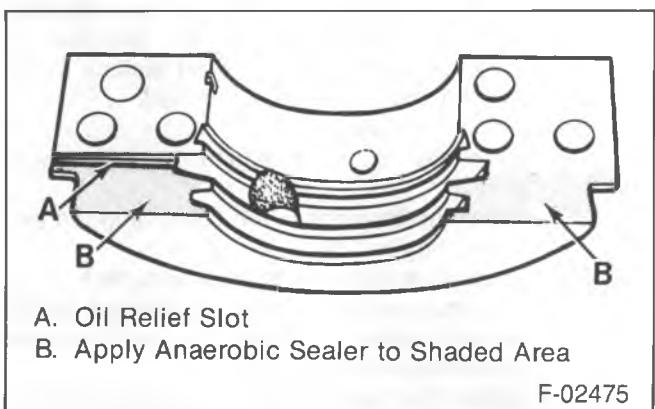

Figure 32—Applying Sealant to the Main Bearing Cap
- Apply a thin film of anaerobic sealant (GM part number 1052756 or equivalent) to the bearing cap as shown in figure 32. Keep the sealant off the seal and bearing. Do not put sealant in the bearing cap oil relief slot.